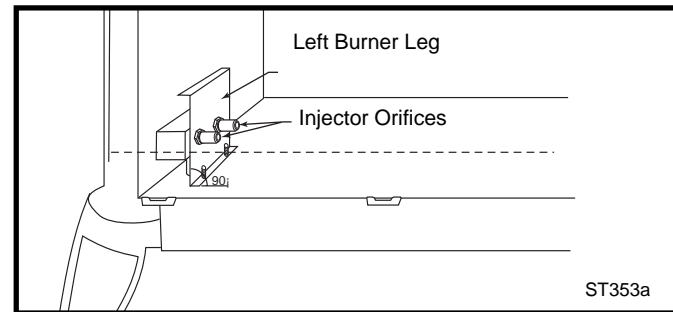

Fig. 35 Remove and replace injector orifices.
8. Remove injector orifices from left burner leg using 1/2" wrench. (Fig. 35)
**NOTE:** It is very critical to keep the left burner leg, which holds the injectors, at a 90° angel to the base. (Fig. 35) This keeps the orifices aligned with the tubes inside burner. Failure to do so could affect the flame appearance and performance of the unit.